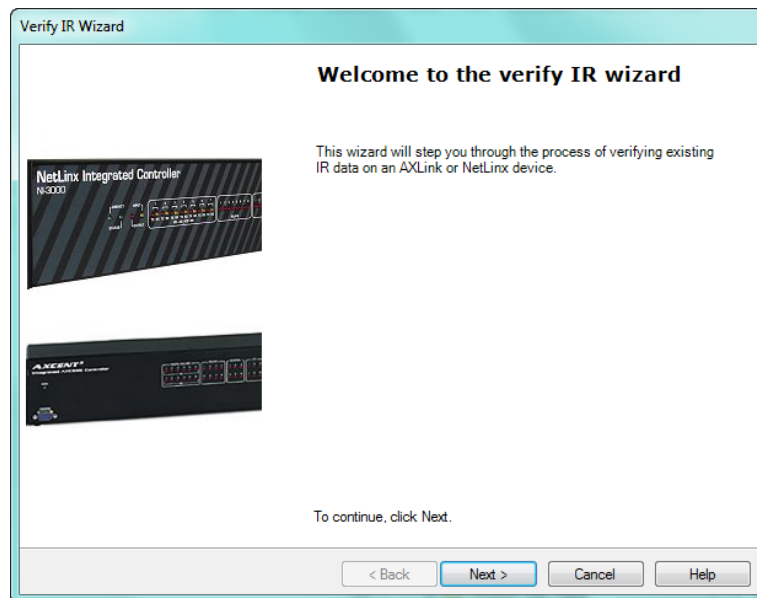

FIG. 59 Verify IR Wizard - Welcome dialog
1. Select **Tools > Verify**. This launches the *Verify IR Wizard* (FIG. 59):